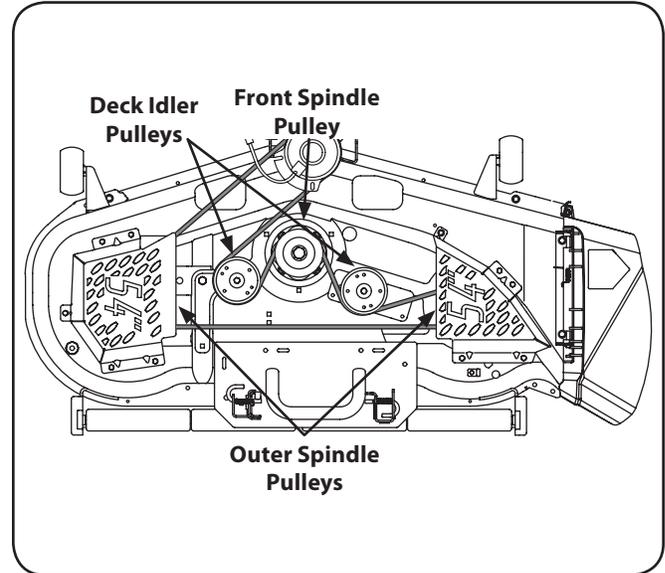

Figure 7-9
5. To place the new belt, begin by routing the belt around the two outer spindle pulleys, then around the front spindle pulley as shown in Fig. 7-9.
6. Route the belt around the two deck idler pulleys as shown in Fig. 7-9.